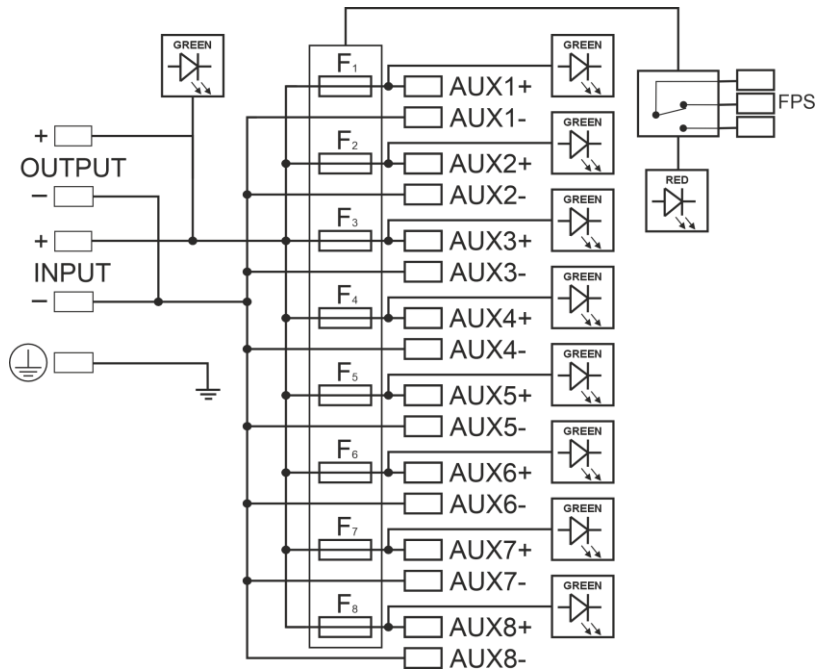

Fig.1. Block diagram of the module.
**1.2. Block diagram (Fig.1).**